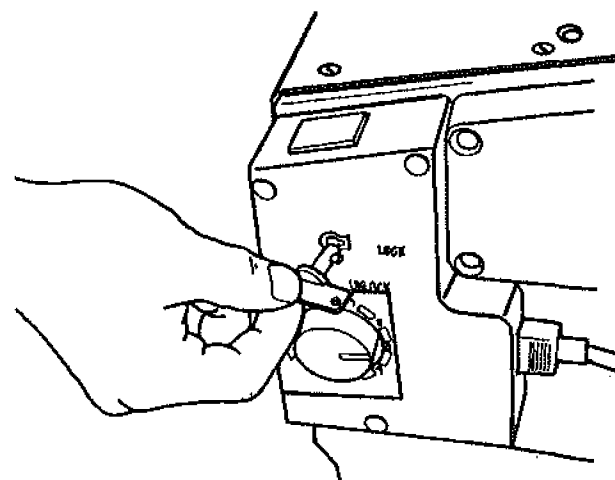

Fig. 48
60. Insert the safety key (51) into the hole in the side of the control box, as in Fig. 48. Turn the key clockwise until you feel it lock into position.